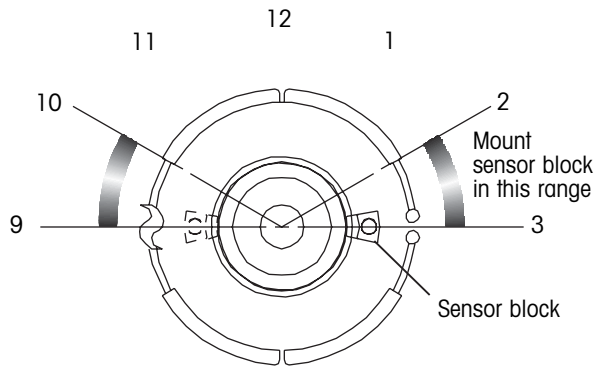

Figure 7. Sensor mounting block location
2. With the hub in place, locate the sensor mounting block at the 9 or 3 o'clock position on the axle spindle to lessen the effect from axle flexure due to loading. See figure 7. Manually hold the sensor block in place and scribe its